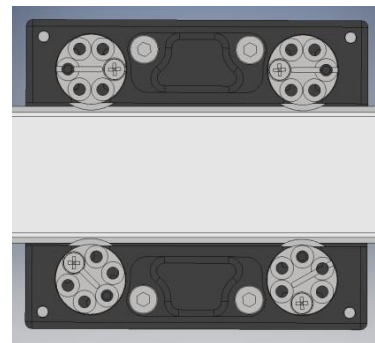

Figure 3: Bottom tightened 45 & 60
- 3) Slowly turn one of the homed Bearing Cams until resistance is felt. Make sure that the Roller Bearing is aligned with the guide rail. Once resistance is felt, continue turning until the next hole is aligned (max of 15° further) and insert a M2.5x8 FHPH screw. Repeat with the other homed Bearing Cams (Figure 3, lower Bearing Cams).